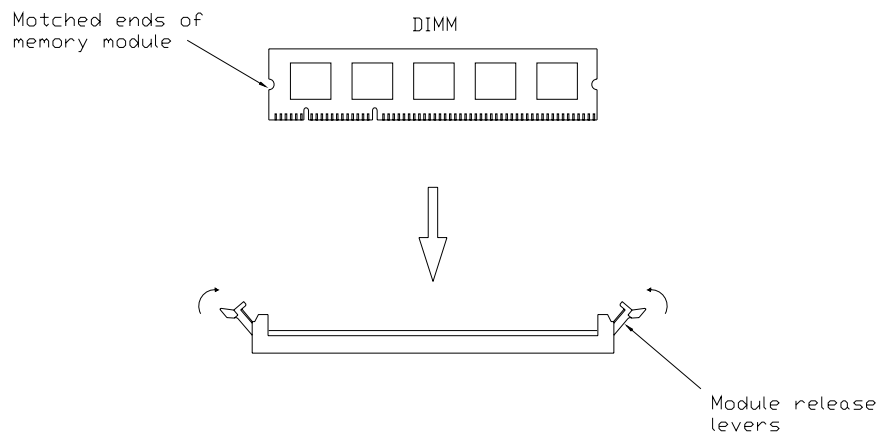

Figure 5.1 SODIMM
1. Move the module release levers on the single board computer (one on each end of the socket) outward, away from the socket (See Figure 5.1).